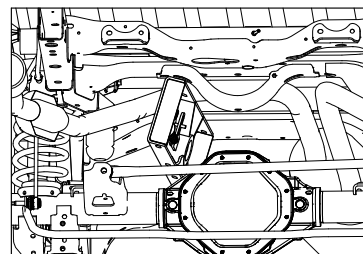
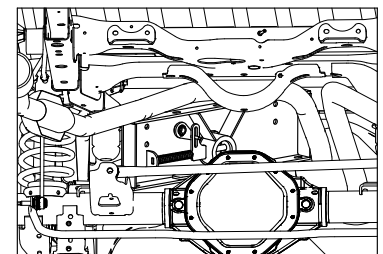

Figure C1: View under bed looking from rear towards the axle
Figure C2: View under bed looking from rear towards the axle
- 1. Position the center section.** Position the center section so that the 4" diameter raised area of the center fits into the 4" diameter hole in the truck bed while the 3/8" square hole is centered under the 3/4" diameter hole in the truck bed. When installed the round receiver will be almost directly above the axle of the pickup. If the pickup is equipped with dual exhaust the installation is more difficult. From behind the rear axle and with the bottom side of the center facing the passenger side of the truck, send the end of the center without the spring over the axle first, see Figure C1. Send the lead end of the center toward the front of the truck and to the passenger side far enough so the end of the center toward the rear of the truck will clear the exhaust, see Figure C2.